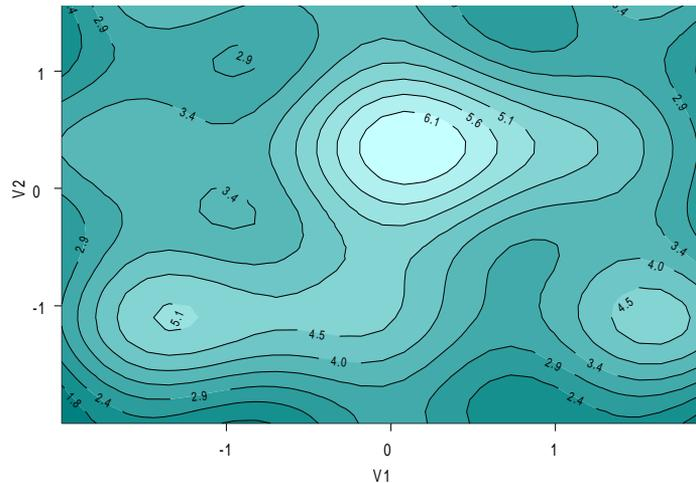

Figure 3.50: Filled contour plot of the exsurf data.
- Right-click the plot to display the shortcut menu and select **Contour/Fills** to open the **Contour Plot** dialog. Change the **Fill Type** to **2 Color Range**. Click **OK**. The resulting contour plot has colors between **Blue** and **Lt Cyan**, as shown in Figure 3.50.